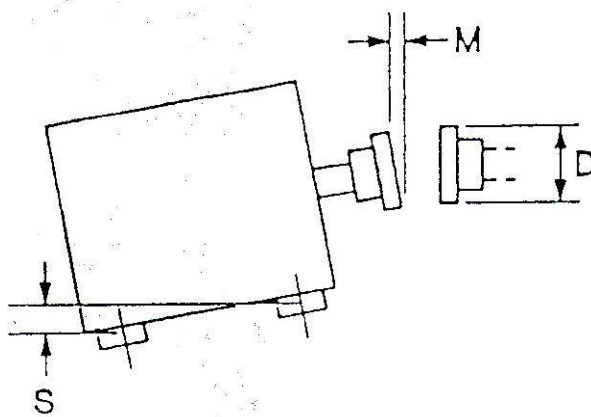

Fig. 7
h) According to the above calculation, it is necessary to remove the shim with the thickness of 0.75mm from the support leg in the tail end of motor. For operation, the motor is lifted by the crowbar or hoisting equipment, as shown in Fig. 7. After the adjustment is completed, tighten the mounting bolts as per the order shown in Fig. 8. After the mounting bolts are tightened, use the micrometer gauge to inspect whether the error is within the controlled range.